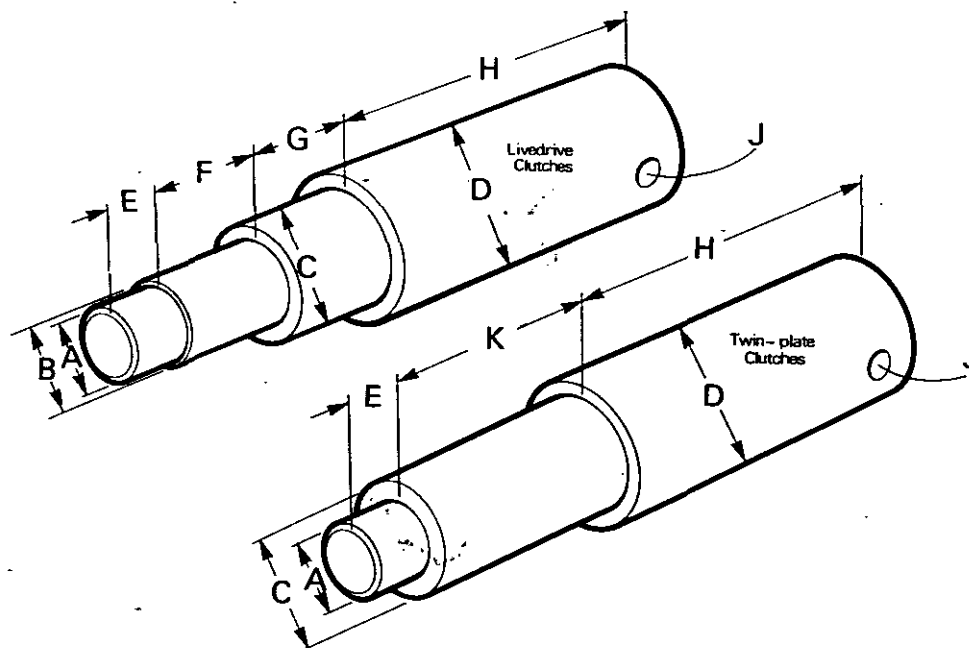

Figure 7. CLUTCH PLATE PILOT — LIVEDRIVE TRACTORS (EXCEPT 1200)
4. A mandrel, or pilot clutch shaft, Figure 7, will be required to centralise the driven plates as the clutch assembly is fitted to the flywheel. Insert this pilot shaft through the clutch cover bearing and fit transmission plate on to it (hub to flywheel side).